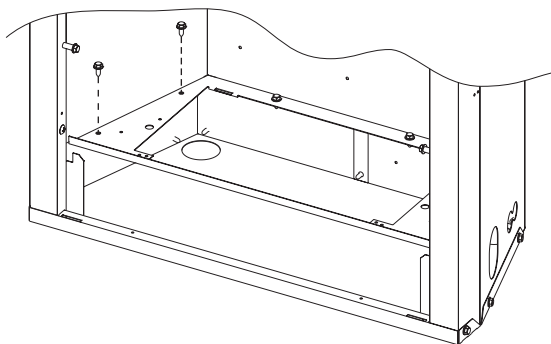

Figure 27
6. Remove two 10 x 1/2" screws on the left side of the firebox bottom. See Figure 27.